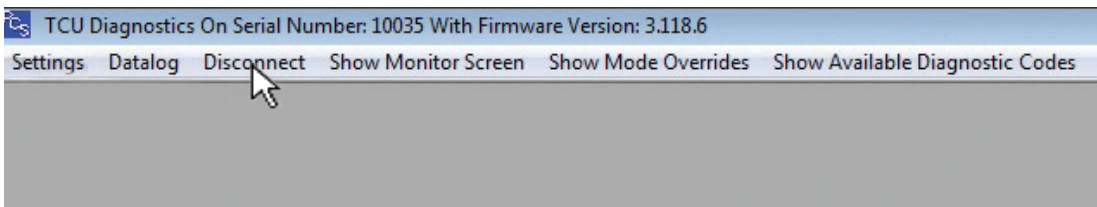

Figure 1
1. Select “Disconnect” from the menu bar to properly disconnect the TCU. **Reference Figure 1.**